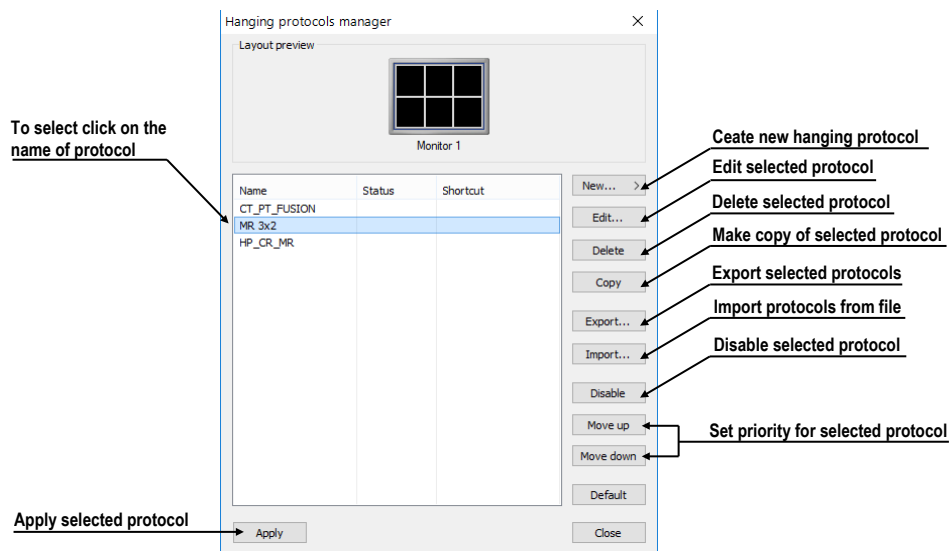

**Figure 183 – Context menu of the thumbnails palette**
3. Right-click to open the context menu, and select the **Insert image/Insert working area screenshot** item (see Figure 183). The screenshot of the working area is then automatically inserted at the end of the target series.
3. Right-click to display the context menu, and select the **Insert image/Insert view screenshot** item (see Figure 183). The screenshot of the current view is then automatically inserted at the end of the series.
3. Right-click to display the context menu, and select the **Insert image/Insert image copy** item (see Figure 183). The image from the current view is then automatically inserted at the end of the series.
2. Right-click to display the context menu (see Figure 183), and select the **Delete image** item. The image/group of images is then automatically deleted from the series.